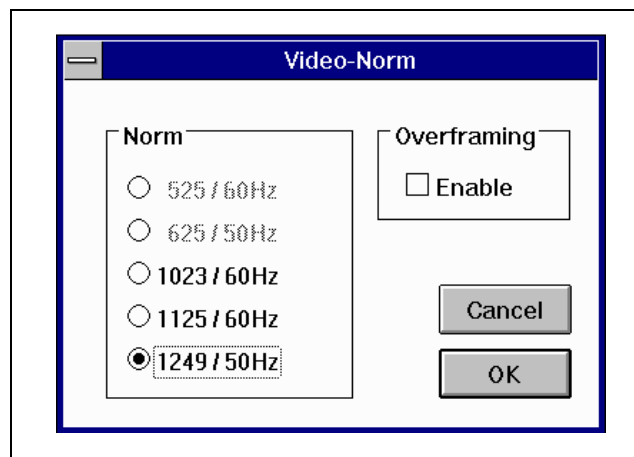

Fig. 4
- The selection of 1023/60Hz and 1249/50Hz are possible for the H1X/HD emulation. Confirm the change of the Video standard with "OK" (Fig.4)..